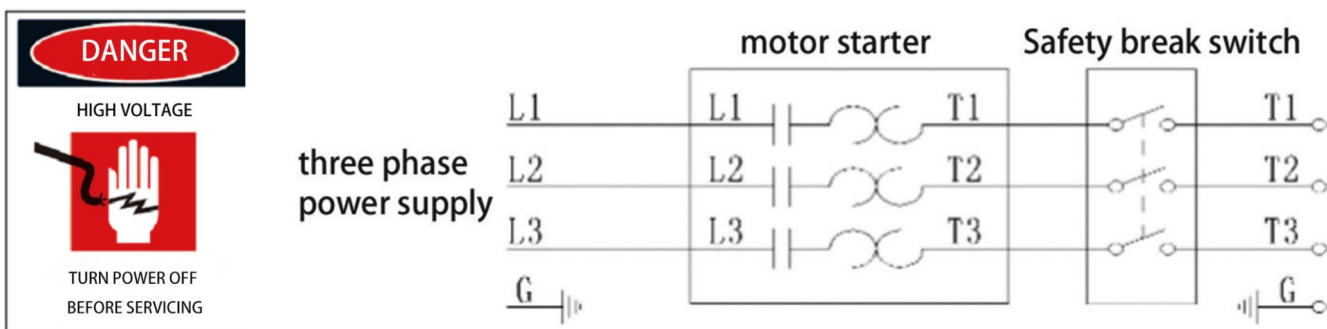

Figure 4
- D. Overload protection measures shall be equipped for each fan(as shown in Figure 4);